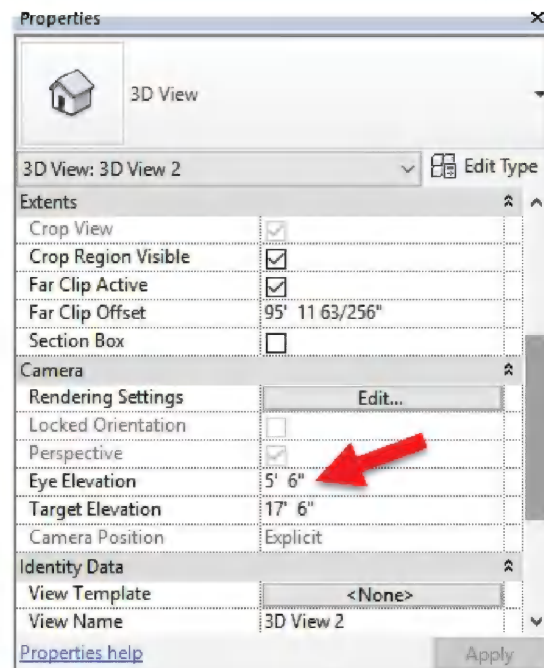

FIGURE 13-4.5 Camera properties
- Change the **Eye Elevation** to **5'-6"** (Figure 13-4.5).